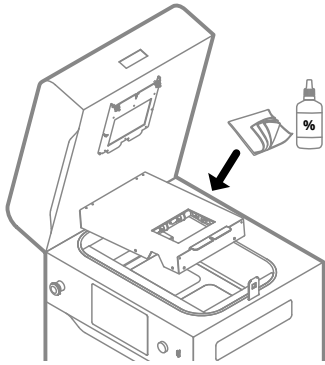

Fig. 13.102 Clean the reflector thoroughly before applying the new sealing.
12. Use a cotton cloth soaked in alcohol to remove the sealing residues (fig. 13.102).